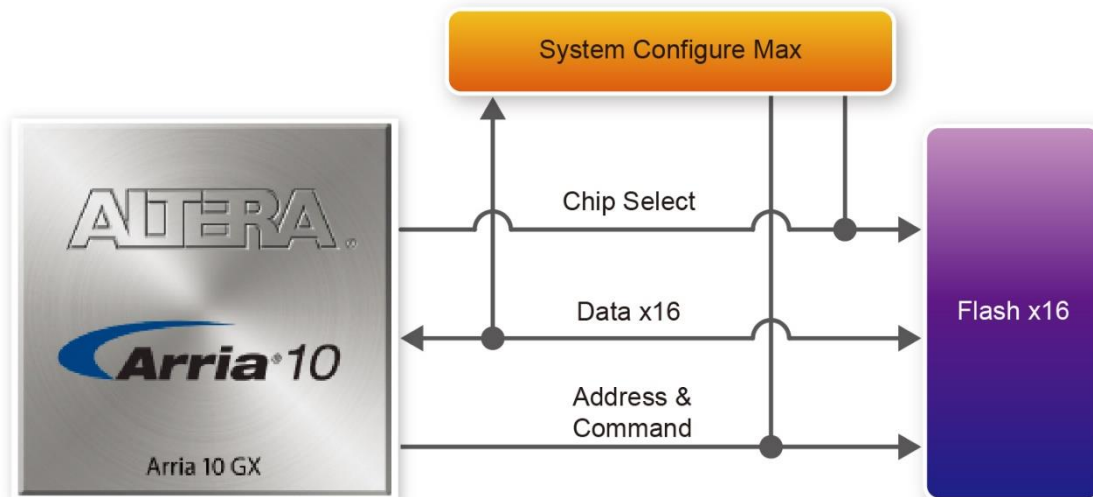

Figure 2-14 Connection between the Flash, Max and Arria 10 GX FPGA
Each interface has a 16-bit data bus and the device combined allow for FPP x16 configuration. This device is part of the shared flash and MAX (FM) bus, which connects to the flash memory and MAX V CPLD System Controller. **Figure 2-14** shows the connections between the Flash, MAX and Arria 10 GX FPGA.